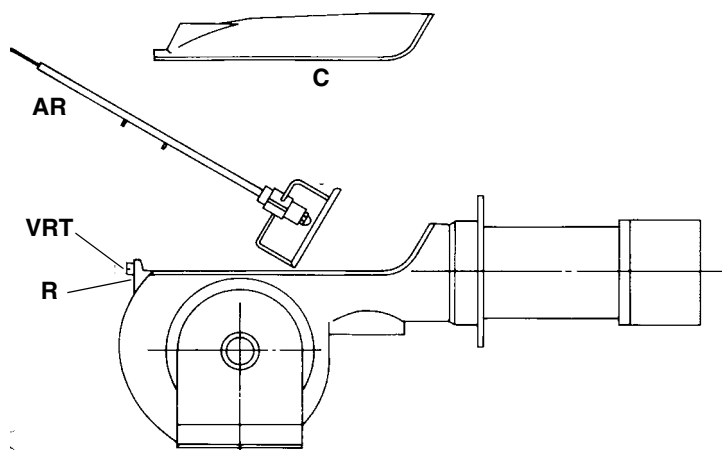

Fig. 23
- Dismantle, clean and check the combustion head (see Fig. 23).
- 3 unscrew the revolving connectors (E in Fig. 23) on the fuel pipes (use 2 spanners to avoid loosening the connections attached to the distributor block);
- 5 remove the whole assembly as shown in Fig. 23.